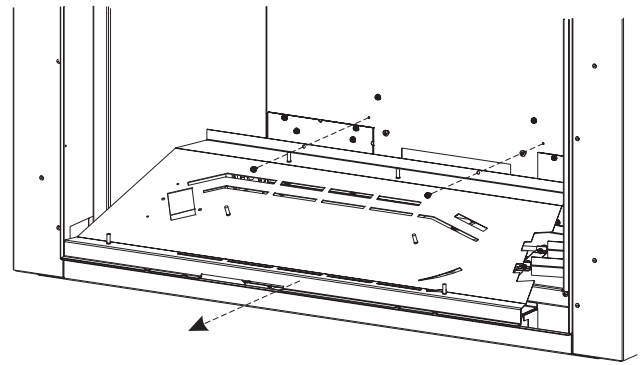

Figure 4
5. Remove (2) screws holding burner base in place. Lift burner base out of firebox. See Figure 4.